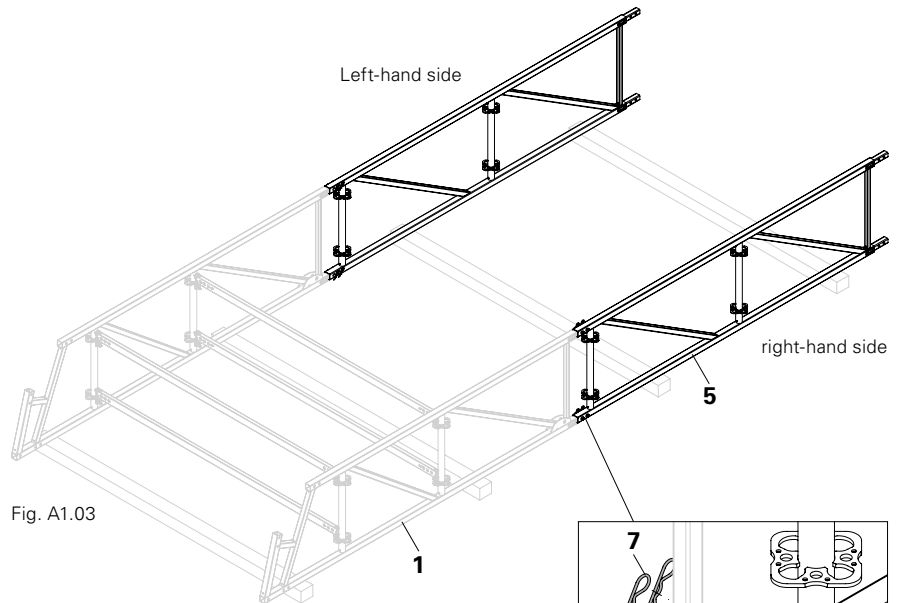

Fig. A1.03
- Slide the tubes of the standard element (**5**) into the pins of the eave elements. (Fig. A1.03)